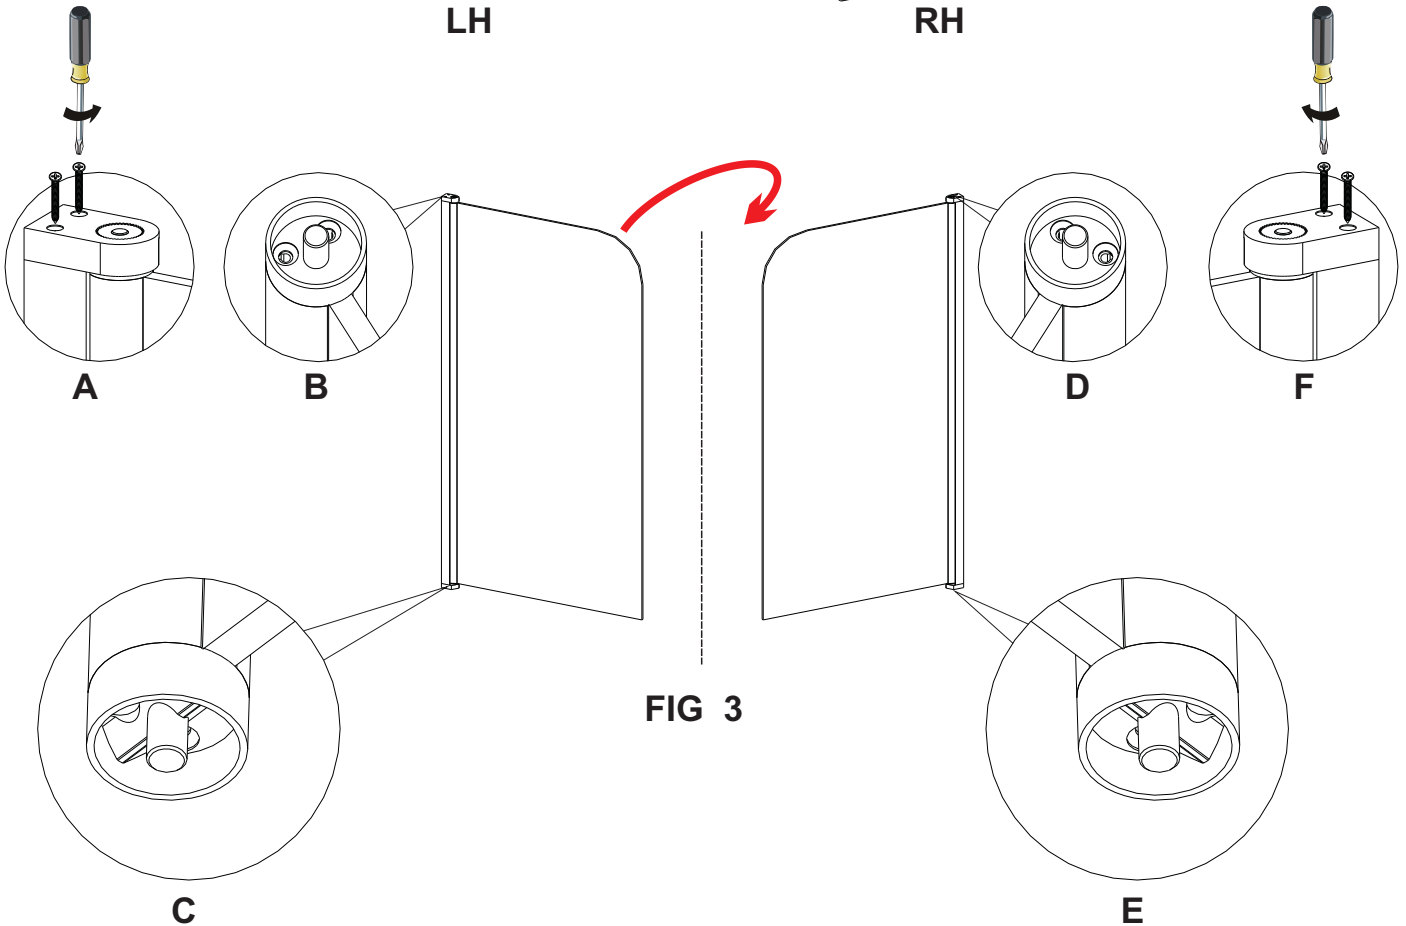

FIG 3
3. Ensure rising butt (Fig3/C) is to the bottom, if not reverse by loosening screws as in A. Swing screen around and tighten screws as in F'